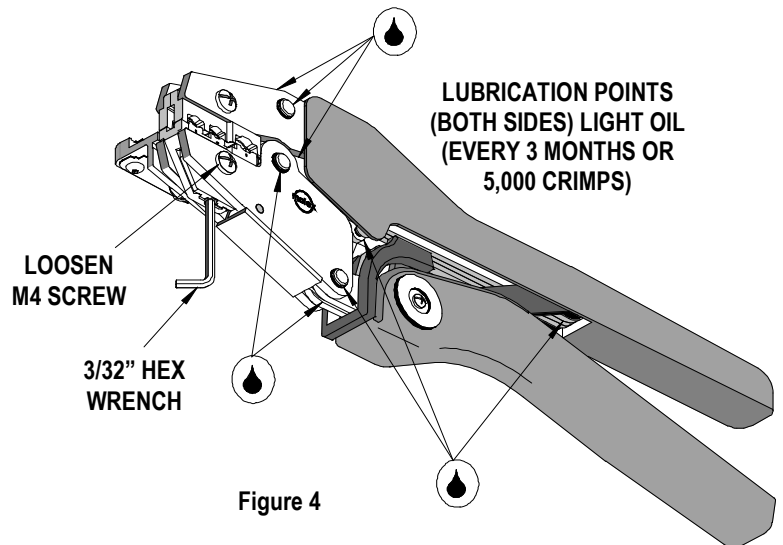

Figure 4
- This tool was engineered for durability, but like any fine piece of equipment it needs cleaning and lubrication for a maximum service life of trouble-free crimping. A light oil, such as 30 weight automotive oil used at the oil points shown in Figure 4, every 5,000 crimps or 3 months will significantly enhance the tool life and ensure a stable calibration.